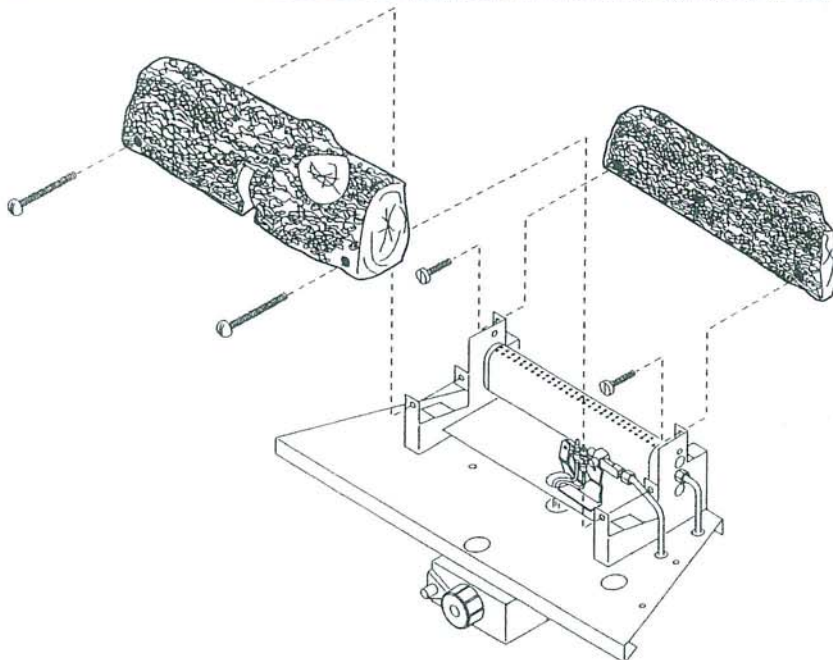

FIGURE 12. DB32 Log Placement
1. Refer to FIGURE 12. Turn control knob clockwise  to the OFF position.